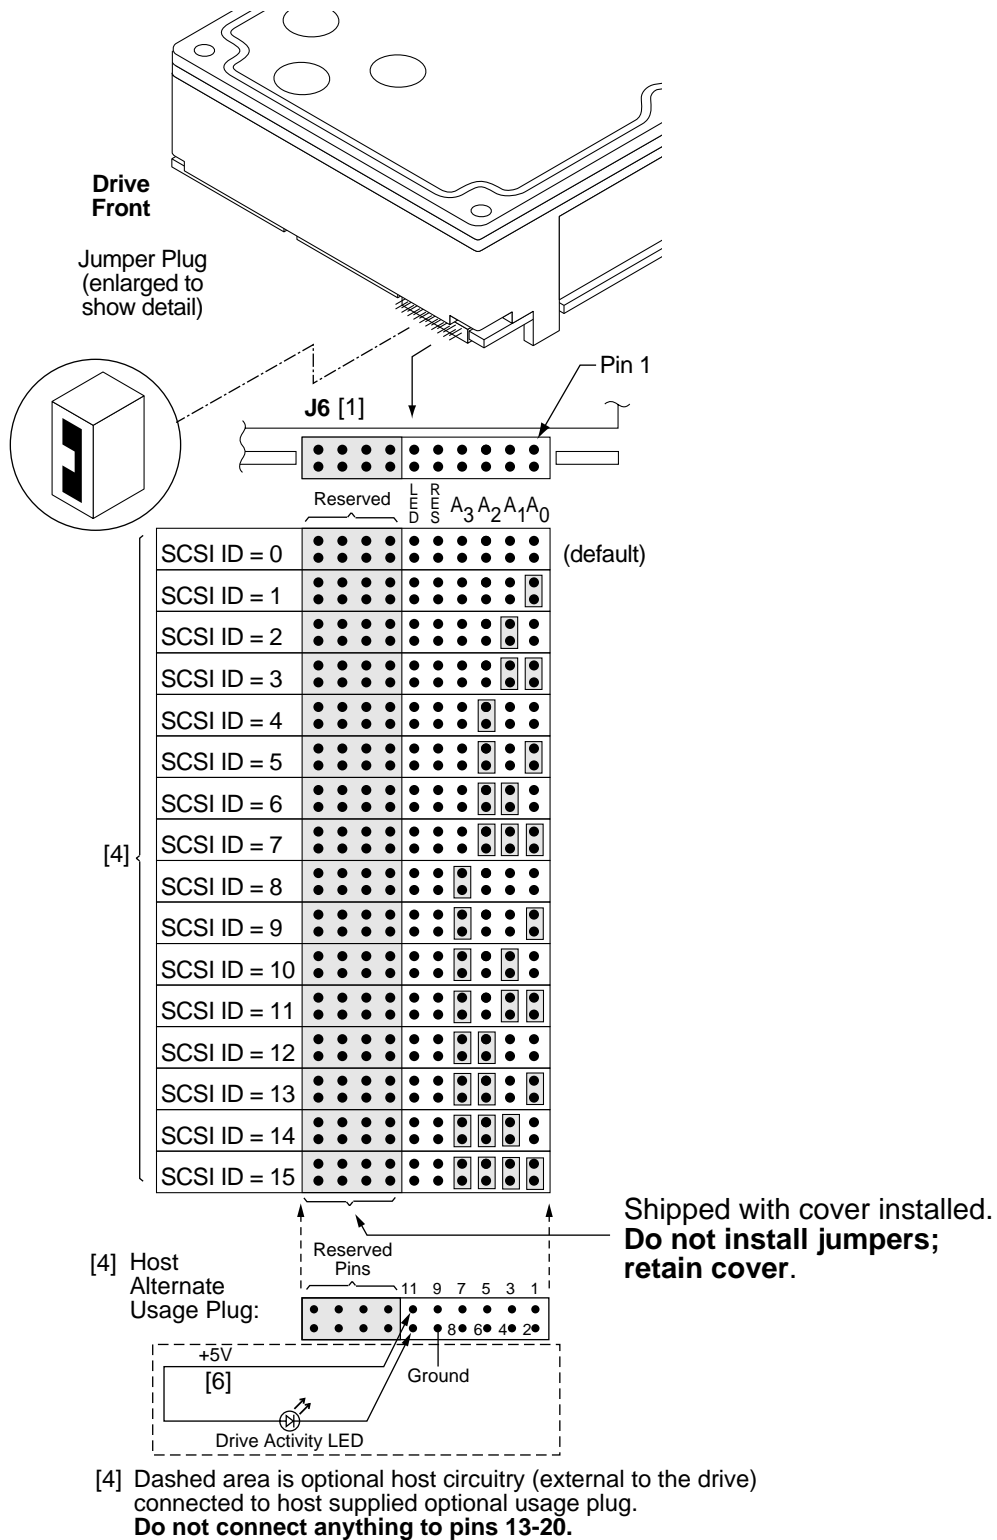
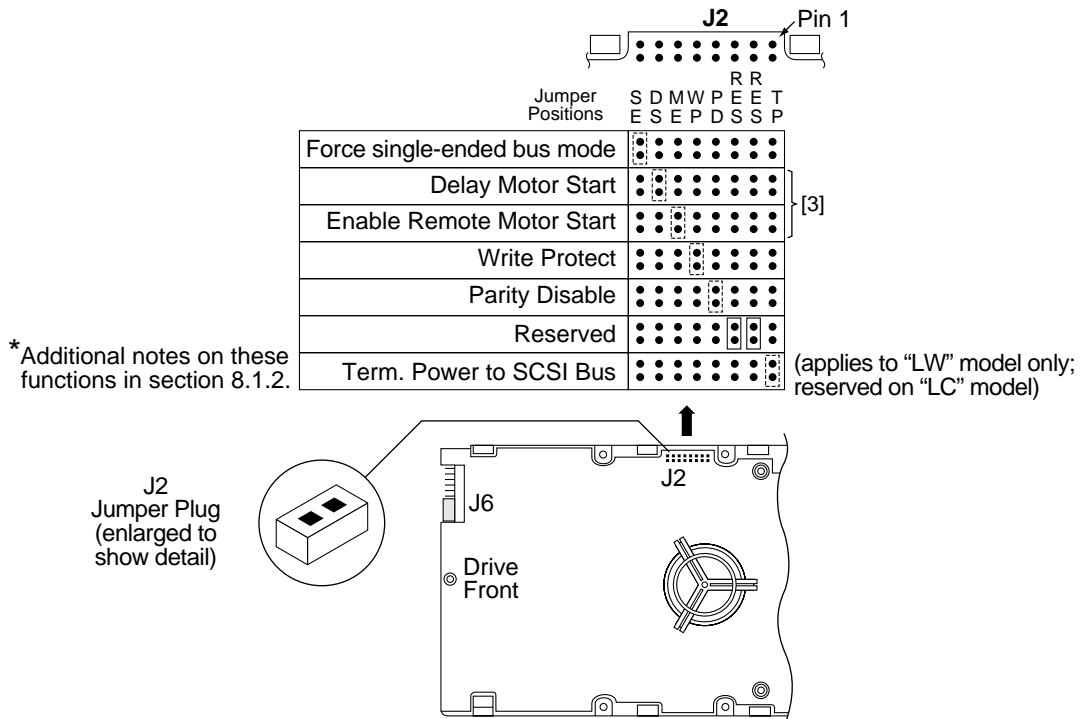

Figure 8. J6 jumper header
Figure 10. J2 option select header
For option jumper locations and definitions refer to Figures 8, 9, and 10. Drive default mode parameters are not normally needed for installation. Refer to Section 9.3.2 for default mode parameters if they are needed.
Figures 8 and 9 show views of the drive ID select jumper connectors. Figure 10 shows the option select jumper connector for all models. Figure 8 shows the drive’s J5-auxiliary jumper connector. Both J5-auxiliary and J6 have pins for selecting drive ID and for connecting the remote LED cable. Only one or the other should be used, although using both at the same time would not damage the drive. The notes following the figures describe the functions of the various jumper positions on the connectors J2, J5-Auxiliary and J6. Suggested part number for the jumpers used on J2 is Molex 52747-0211 (Seagate part number 77679052). A bag with the two jumper plug types is shipped with the standard OEM drives.
8.1.1 Notes for Figures 8, 9, and 10.